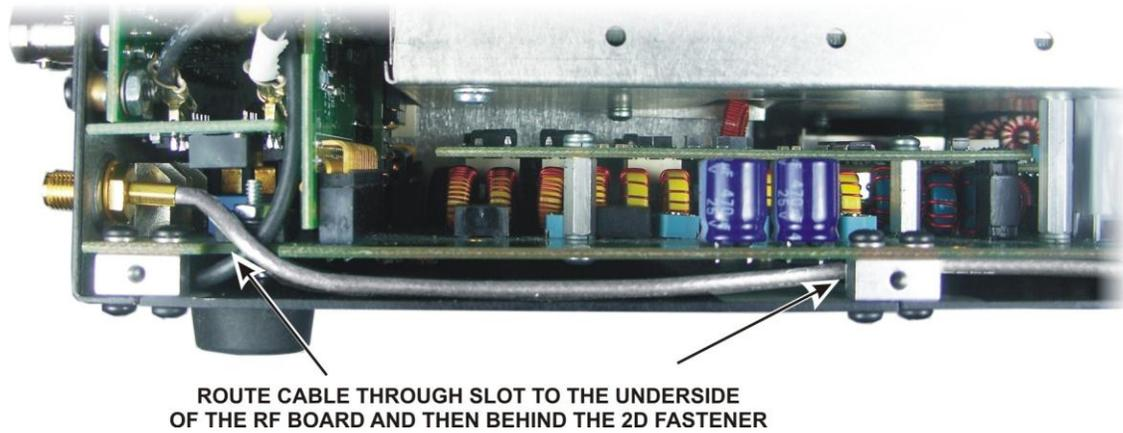

Figure 4. Routing the SMA Cable Under the RF Board.
- Route the cable under the RF board and toward the front of the K3 as shown in Figure 4. Keep the cable near the edge of the board as shown.